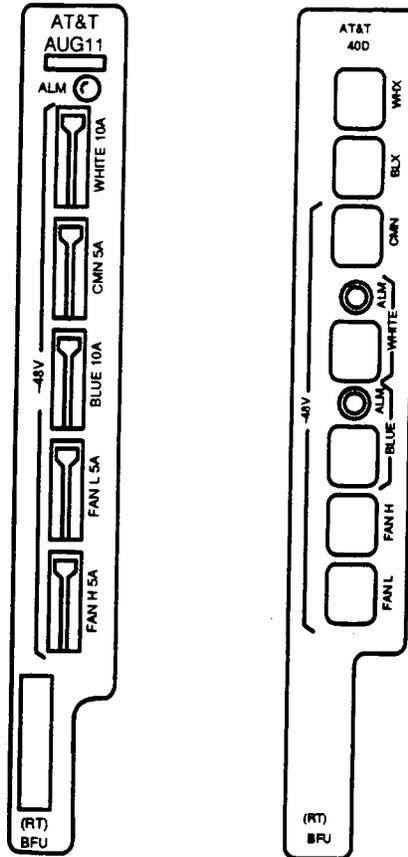

Figure 1 — AUG11 and 40D Bank Fuse Unit
- **GND** to **-48L** (1) (2) (3) on **RSU**,
2. Get required number of **BFUs** (refer to Figure 1 and Table A) to be inserted into remote terminal (RT) power shelf.